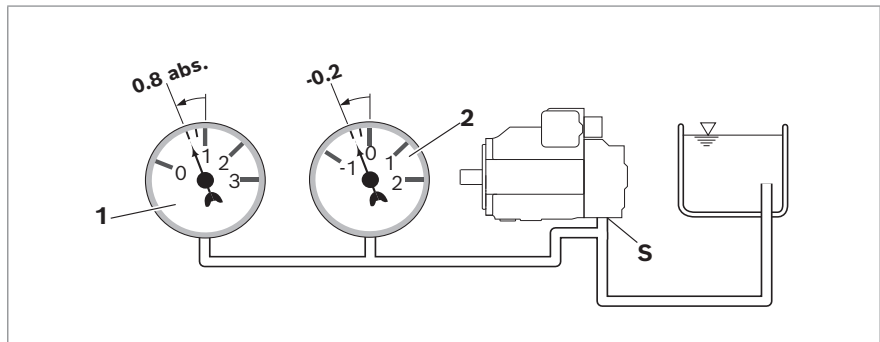

Fig. 6: Suction pressure
- ▶ Make sure that a minimum suction pressure of 0.8 bar absolute (without charge pump) or 0.7 bar absolute (with charge pump) absolute is present at port **S** during operation and at cold start, in all installation positions and installation locations for the axial piston pump, see Fig. 6. See data sheet for other pressure values.